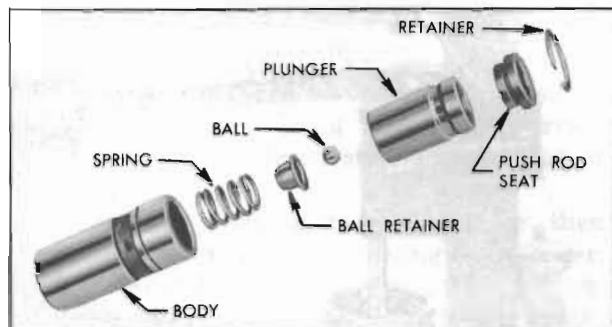

Figure 2-26—Hydraulic Valve Lifter Parts
2. Hold plunger in vertical position with feed hole up, then rinse and install the check ball, ball retainer, spring, and body over the plunger. See parts in figure 2-26.